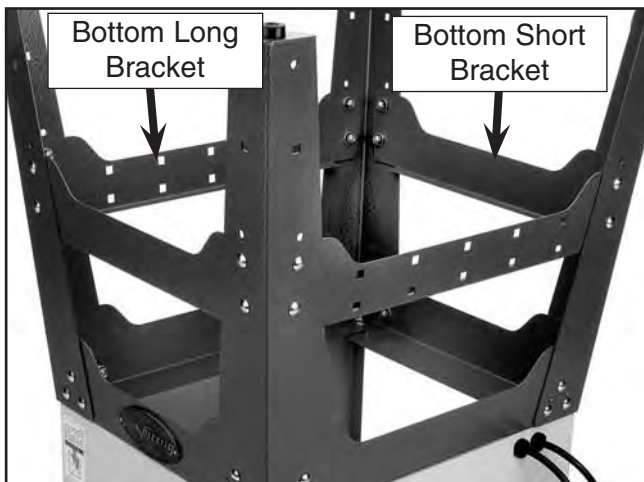

Figure 13. Bottom bracket installation.
- Secure the bottom long and short brackets to the stand legs with 16 carriage bolts, 16 flat washers, 16 lock washers, and 16 hex nuts as shown in **Figure 13**.